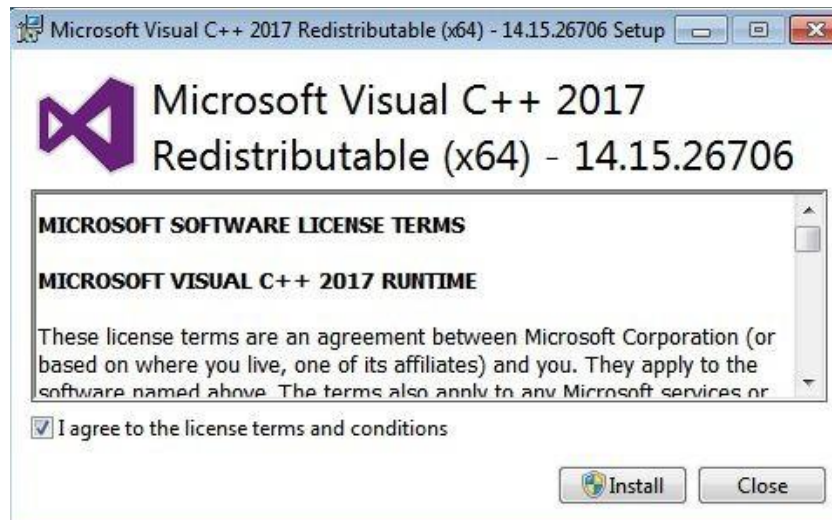

Fig 6
1. Interface of environment installation will pop out after the above installation finished, choose "I agree to the license terms and conditions" then click "Install" to next step, as Fig 6.